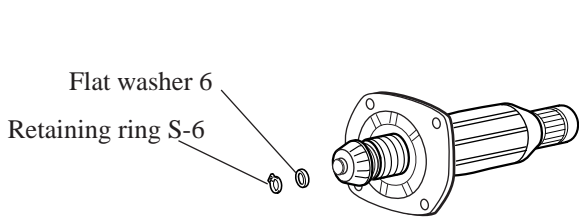

Fig. 1A
- (3) Disassemble retaining ring S-6 and flat washer 6 from armature shaft as illustrated in Fig. 1A.
- (4) Grip spiral bevel gear 9 with your gloved hand, and pull off spiral bevel gear 9 with turning anti-clockwise.